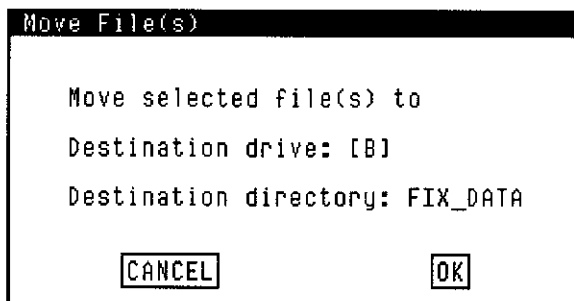

Figure 8-5. Move File(s) Window
4. Click on **<Move>**. The Move File(s) window, Figure 8-5, is displayed. Input the drive and directory where the file(s) are to be moved. Then click on **[OK]** to move the selected file(s) and remove the Move File(s) window from the display.